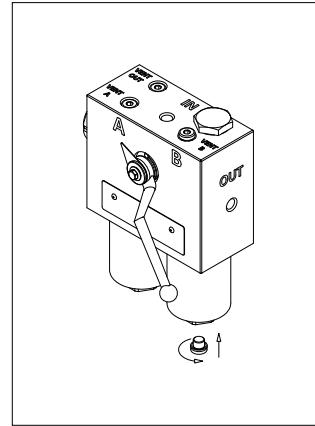

fig. 8
- (Fig. 8) Screw the drain plug in referring to the tightening torque table in paragraph 3